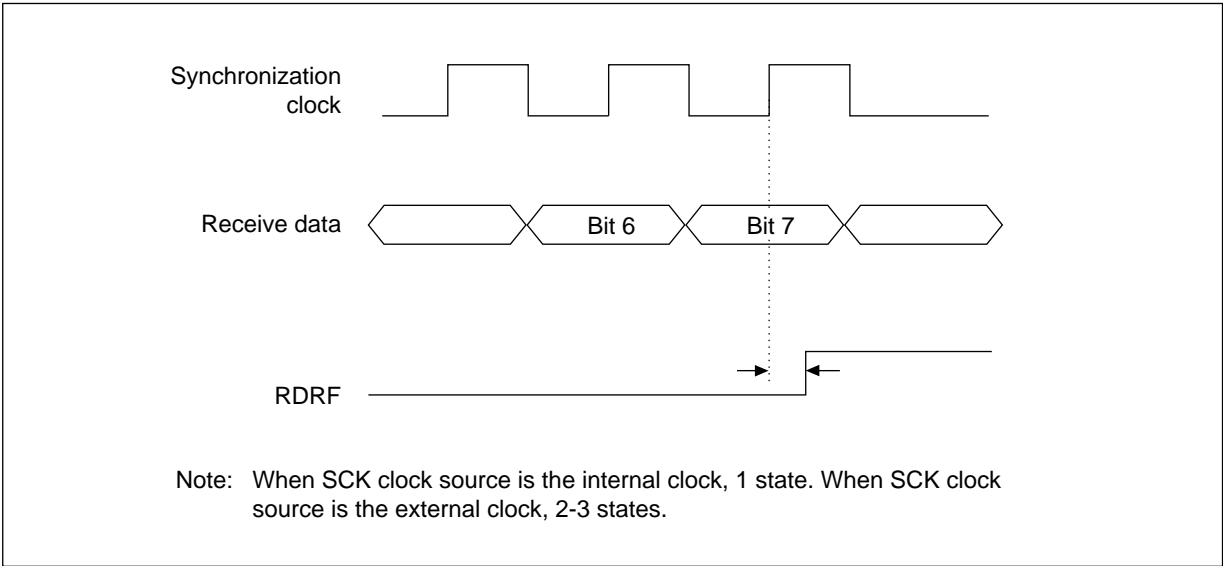

Figure 2.22 8-Bit Data
2. The RDRF flag is set after the MSB data is received and synchronization clock rises. (See figure 2.22.)